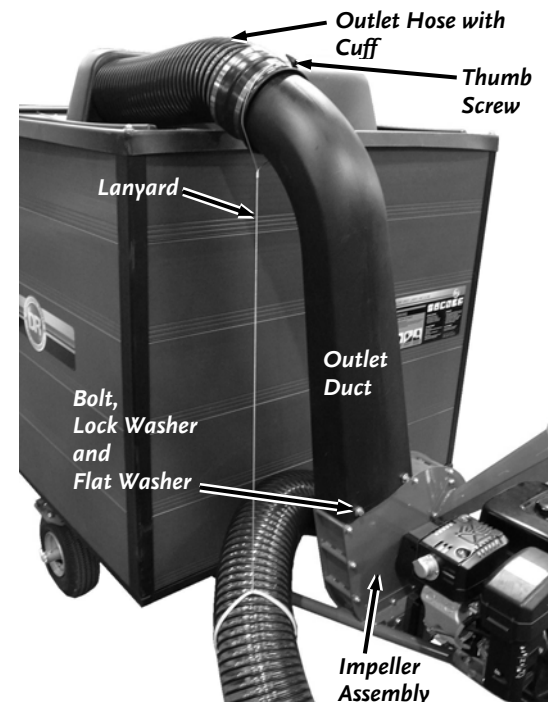

Figure 44
1. Disconnect the Outlet Hose from the Outlet Duct by loosening the Thumbscrew Clamp on the Cuff (**Figure 44**) and pulling the Hose (with Lanyard) from the Outlet Duct.